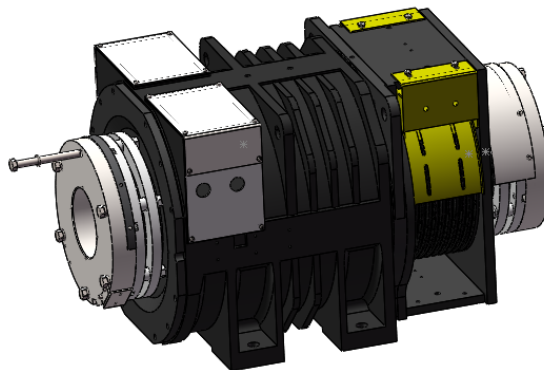

Figure 54 Final bolt installation
9. Remove the threaded rod M16x320; tighten remaining bolt M16x165 and lock washer 16. See Figure 54.